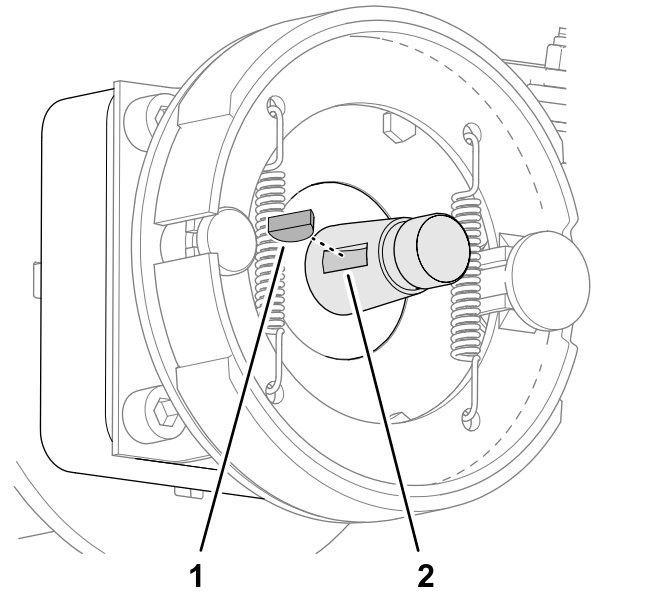

Figure 77
5. Remove woodruff key from the wheel-motor shaft (Figure 77).